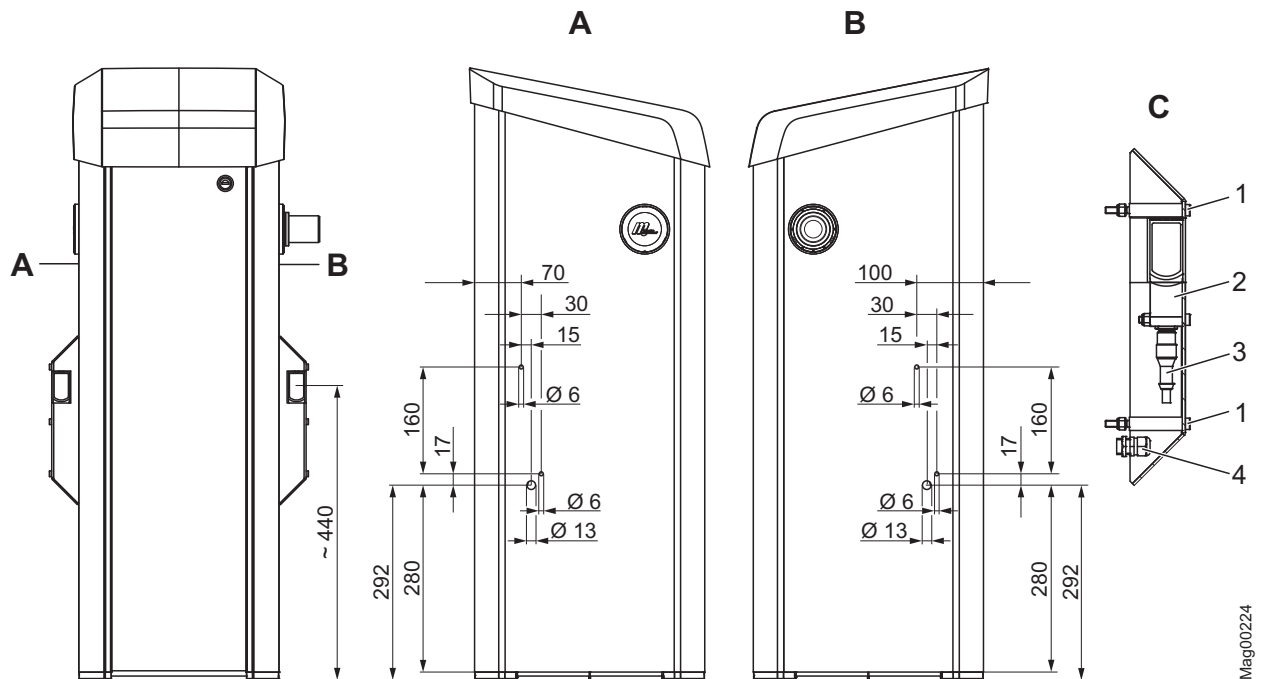

Fig. 23: Assemble of the transmitter's light barrier housing on the barrier housing (dimensions in mm)
1. Drill holes for the light barrier housing according to Fig. 23.